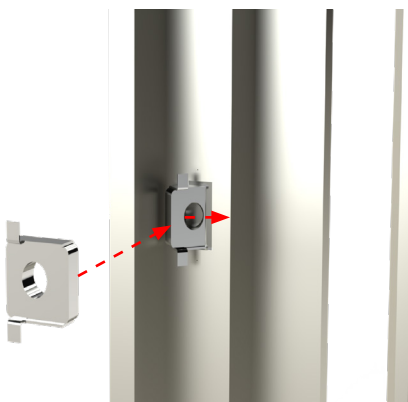

Figure 4
- Insert two cage nuts (Item 8) side-by-side into the top rails (Figure 4).
Insert the cage nut (Item 8), non-flange side away from the rail corners, at a 45° angle. Slide flush with the rail (Figure 4).